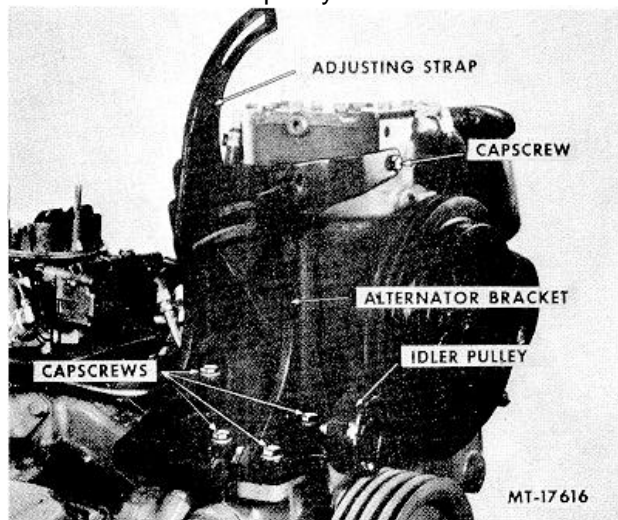

Fig. 16
11. Remove air pump adjusting strap capscrew, nut and washer (Fig. 16) and remove adjusting strap.
12. Remove alternator bracket mounting capscrews and washers (Fig. 16). Remove bracket and idler pulley.